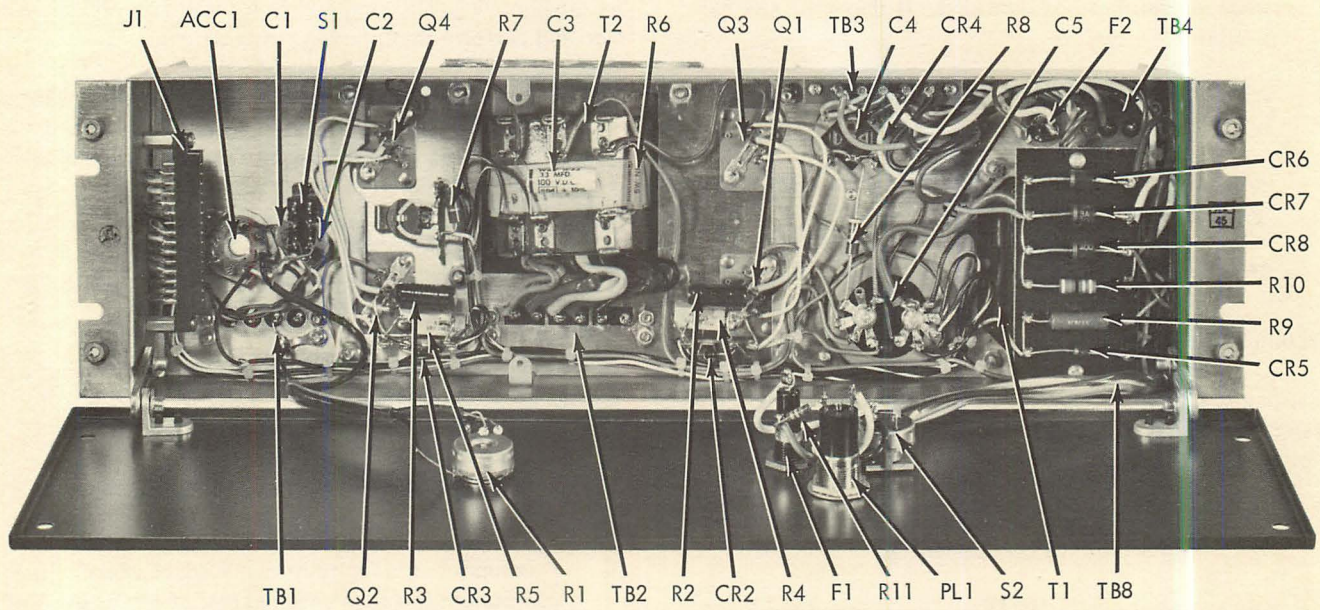

Figure 8. Component Locations Inside Main Chassis
Main chassis component locations are shown in Figures 8 and 9. The 1593B schematic is shown in Figure 10. Component locations on the Power Driver PCB are shown in Figure 11.
- Remove two screws securing Power Driver PCB to chassis and lower PCB on hinged connector. Connect a millivoltmeter across resistor R4 (see Figure 8), starting with highest scale to protect meter. Adjust R140 for meter reading of 10 mV. Change connection of millivoltmeter to read across resistor R5 and adjust R141 for meter reading of 10 mV. Remove millivoltmeter and secure PCB to chassis with two screws previously removed.